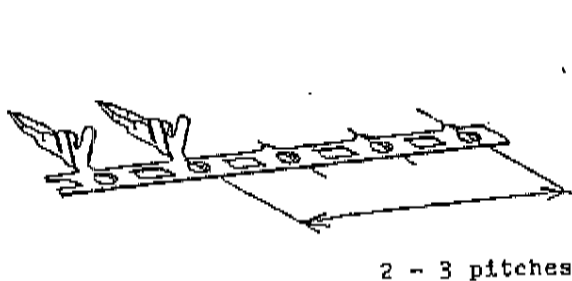

Fig. 2
(1) Cut strip terminals for your easy operation. (Or leave the terminal reel as it is, if you prefer.) Cut the first two or three terminals off the strip carrier per Fig. 2.
Insert the strip carrier of the chain terminals in between the ① terminal guide and ② guide plate. Insulation barrels should be positioned in the groove of the ② guide plate. Feed the chain terminals until the insulation barrel of the first terminal comes to the center of the crimping position, while holding the strip carrier by fingers, lightly pressing it forward notch by notch. Refer to Fig. 2 and
Position the upper die so that the tail of the guide screw is inserted in the guide groove of the upper die (on the insulation barrel side). < Refer to Fig. 2.> The die cannot be set when oppositely mounted.